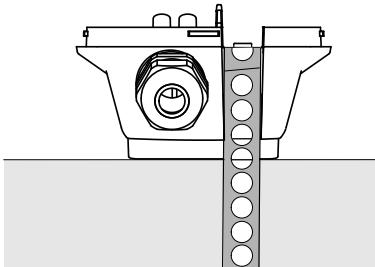

Figure 1 Placement
- Place the sensor according to *Figure 1* and use the metal strap to fasten it around the pipe.